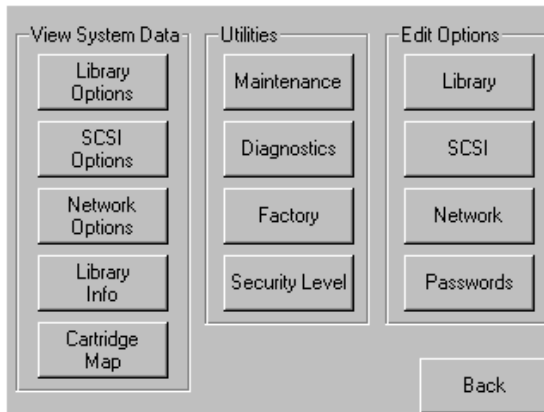

Figure 3-2. Menu screen
2. Select the Library button from the Edit Options area of the GUI (see Figure 3-2).